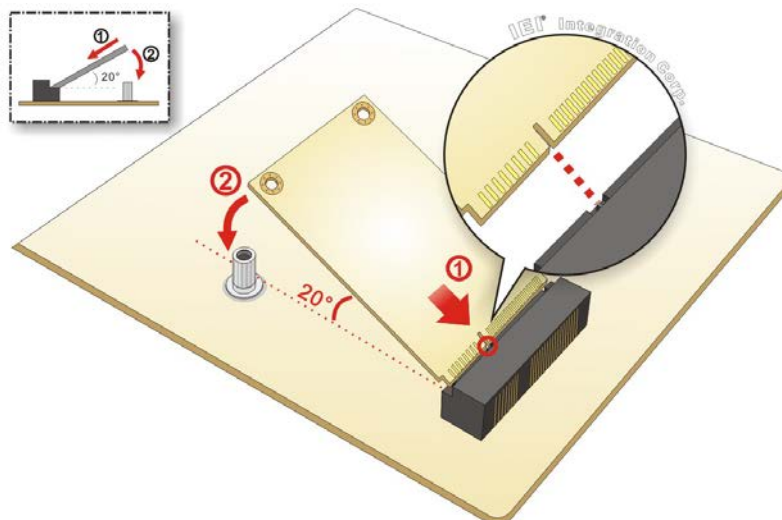

Figure 4-8: Inserting the Full-size PCIe Mini Card into the Slot at an Angle
Step 3: Insert into the socket at an angle. Line up the notch on the card with the notch on the slot. Slide the PCIe Mini card into the socket at an angle of about 20° (**Figure 4-8**).